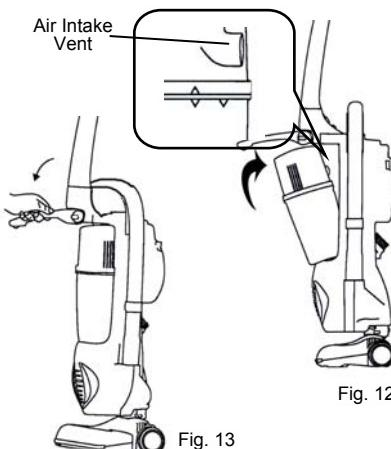

Fig. 12
1. Ensure that small air intake vent on the dust cup is aligned with the opening on the main unit. (Fig. 12)